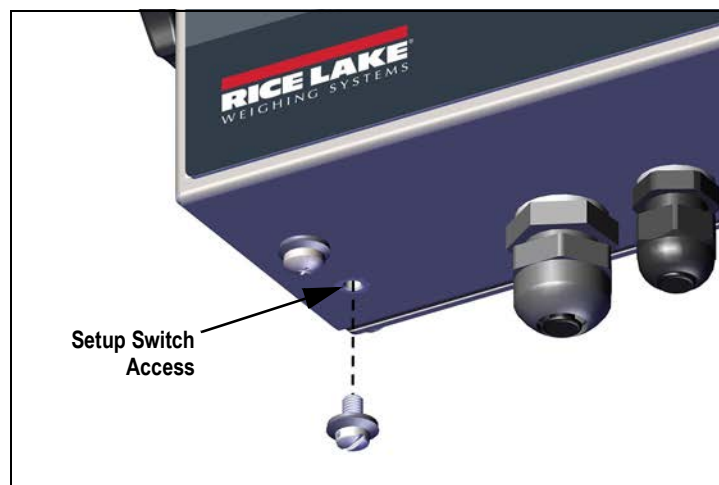

Figure 4-1. Setup Switch Access
1. Access setup mode by pressing the setup switch (Figure 4-1 on page 21).  $\overline{C}OnF, \overline{C}$  displays.